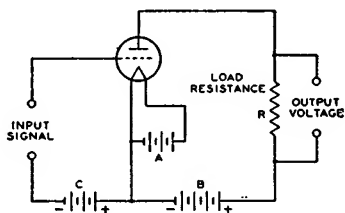

Fig. 15
The plate current flowing through the load resistance (R) of Fig. 15 causes a voltage drop which varies directly with the plate current. The ratio of this voltage variation produced in the load resistance to the input signal voltage is the voltage